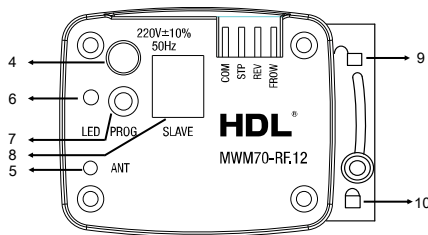

Figure 3. Components - Side View
**Components - See Figure 3 - 4**